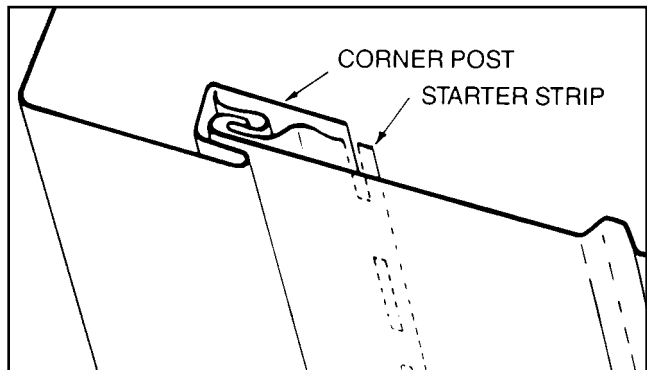

Fig 7.3
4. STARTER STRIP Install starter strip into the channel of the corner post (Fig. 7.3). Begin by putting a nail in the top of the first nailing slot (same as on corner post) and make certain starter strip remains true during installation. Make sure there is enough clearance within the post channel for a siding panel to properly lock onto the starter strip. If necessary, allow at least 1/4" clearance at the ends of starter strip pieces for expansion (see Fig. 5.2, page 10).